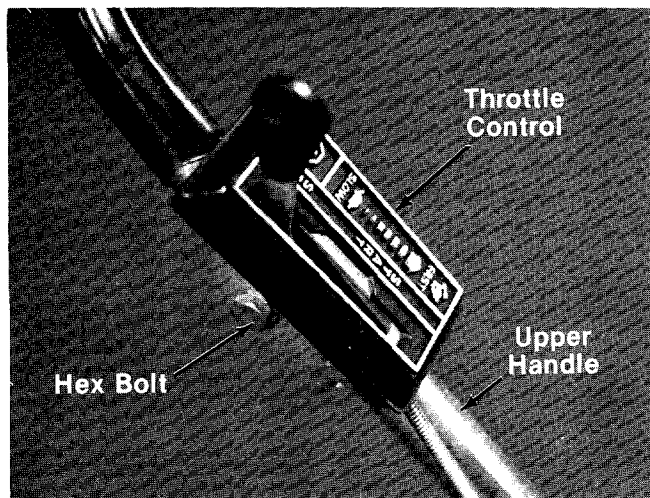

FIGURE 3.
4. Place the throttle control in position on right side of upper handle. ← Secure with hex bolt and lock nut. See figure 3.